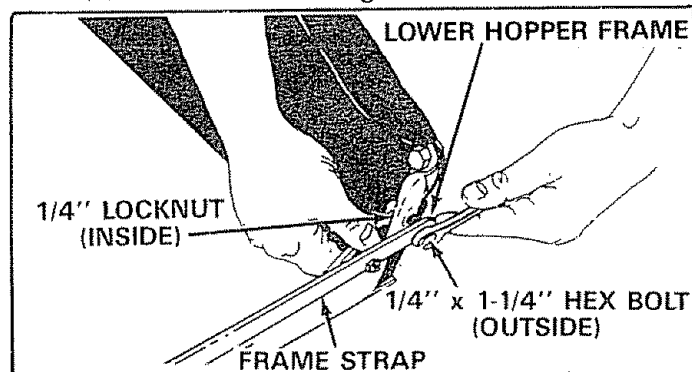

FIGURE 16
- Assemble the frame strap to the lower hopper frame. Secure with 1/4" x 1-1/4" hex bolts and 1/4" lock nuts. See figure 16.